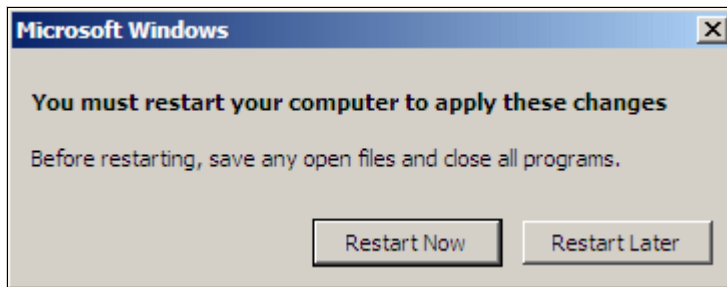

Figure 6-12 Server restart panel
6. A dialog box (Figure 6-12) displays, offering the option to restart now or later. Click **Restart Now**. When the restart is complete the server will be part of the Windows EBS domain.